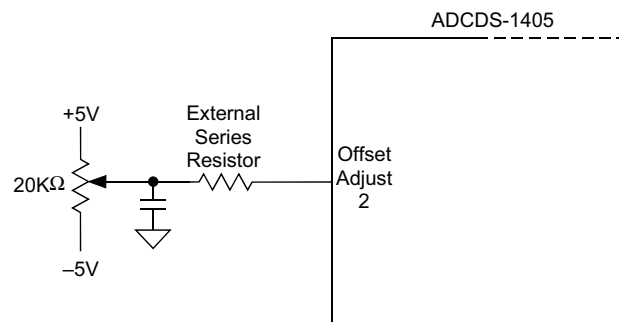
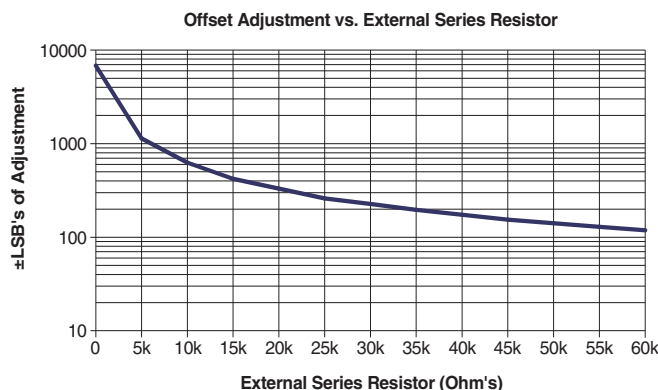

Figure 3. Offset Adjustment Circuit
Figure 6. Offset Adjustment vs. External Series Resistor
- If using the suggested offset and gain adjust circuits (Figure 3 & 5), place them as close to the ADCDS-1405's package as possible.
Manual offset adjustment for the ADCDS-1405 can be accomplished using the adjustment circuit shown in Figure 3. A software controlled D/A converter can be substituted for the 20K Ω potentiometer. The offset adjustment feature allows the user to adjust the Offset/Dark Current level of the ADCDS-1405 until the output bits are 00 0000 0000 0000 and the LSB flickers between 0 and 1. Offset adjust should be performed before gain adjust to avoid interaction. The ADCDS-1405's offset adjustment is dependent on the value of the external series resistor used in the offset adjust circuit (Figure 3). The Offset Adjustment graph (Figure 6) illustrates the typical relationship between the external series resistor value and its offset adjustment capability utilizing $\pm 5V$ supplies.